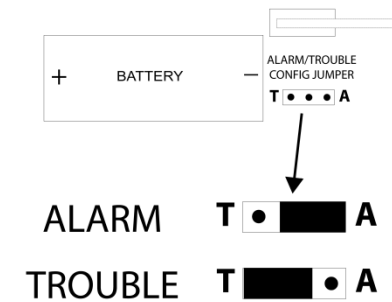

Figure 2
The 345(TS) can be configured via a jumper on J2 to transmit either an Alarm or Trouble signal when the TB1 input is shorted. Use the shorting jumper to short either the T or A pin to the middle pin of the J2 connector (figure 2). The jumper position must be selected prior to installing the battery. To change the desired operation first remove the battery, change the jumper position then reinstall the battery. The wiring from TB1 is supervised in either Alarm or Trouble configurations. **Note: The trouble input configuration is only compatible with control panels which support this feature. Place the jumper in the A position when used with control panels which do not support he feature.** After installation, be sure to perform the **Alarm or Trouble Test** described in this manual.